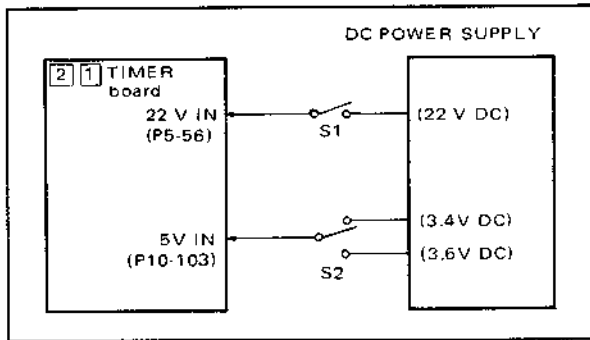

Fig. 5-43
- Remove the BACKUP board and connect as shown in Fig. 5-43.